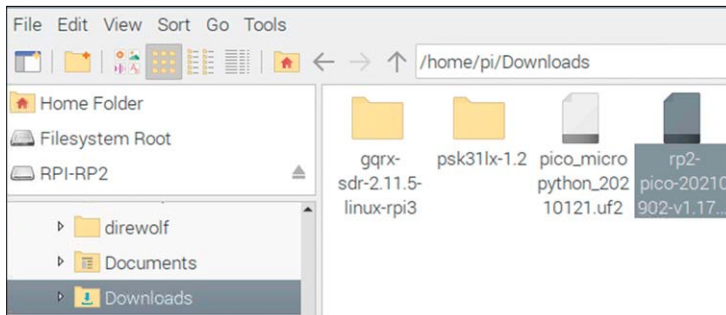

Figure 2.6: Locate file with extension: `.uf2`.
- Open the **Downloads** folder (under **/home/pi**) and locate the file with the extension: **.uf2**. This file will have the name similar to: **rp2-pico-20210902-v1.17.uf2** (Figure 2.6).
- Drag and drop this file onto the Raspberry Pi Pico's removable drive called: **RPI-RP2** (at the top left side of the screen – see Figure 2.6).